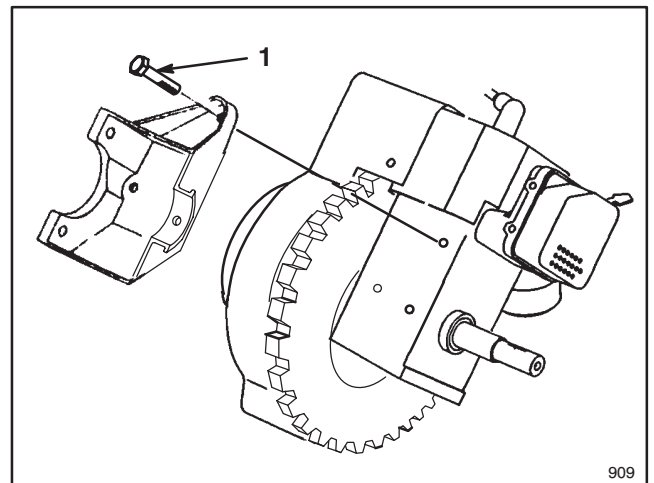

Figure 8
B If bracket was secured to engine with (3) three screws (Fig. 8), remove screws and bracket.